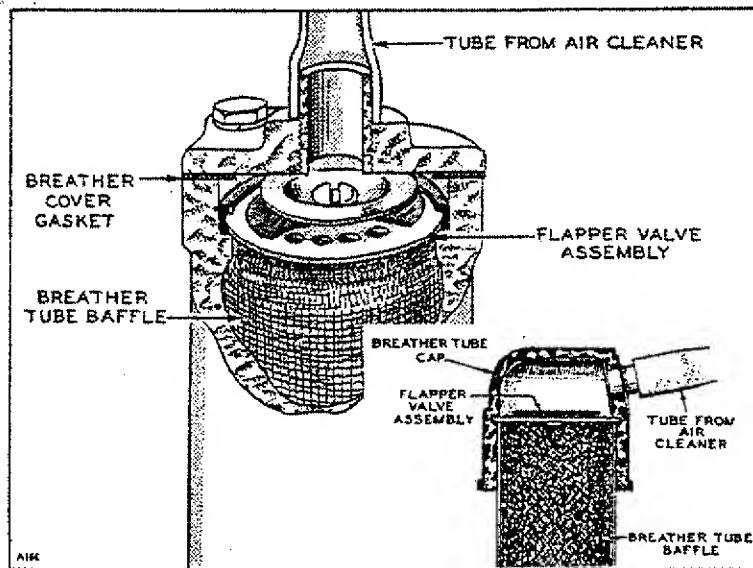

Fig. 14 Crankcase Breather Valve
**CRANKCASE BREATHER VALVE.** - The crankcase breather valve helps to maintain a slight vacuum inside the engine crankcase while the engine is running. If the flapper type valve becomes gummed up or otherwise inoperative, the crankcase vacuum will be destroyed and excessive oil consumption or oil seal leakage may result. After removing the valve, Fig. 14, clean thoroughly in gasoline or other solvent. Replace the valve with a new one if the flapper diaphragm is worn or otherwise damaged so as to prevent proper seating to the perforated disc.